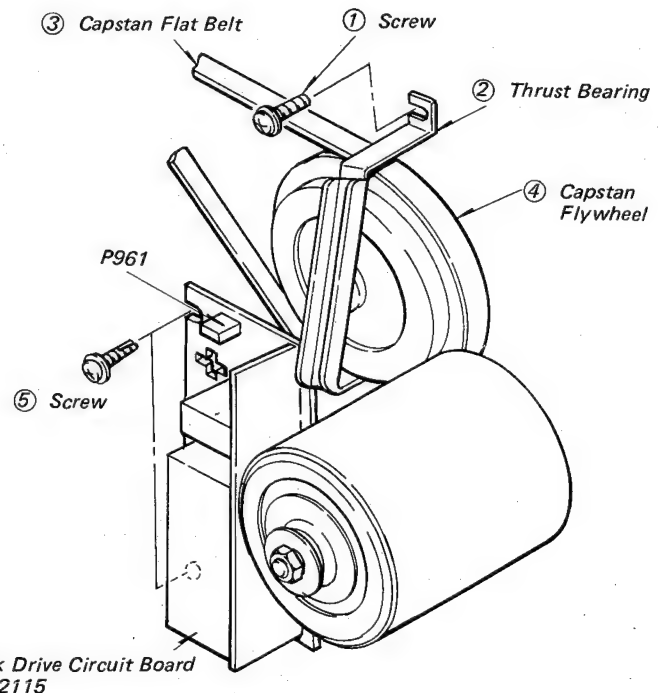

Fig. 5-73 Disk Drive Board PW-2115 and Capstan Flywheel.
6. Remove the two screws ⑤ in Fig. 5-73.
8. Loosen the two screws ① and take out the thrust bearing ② (see Fig. 5-73).
9. Remove the capstan flat belt ③ and take off the capstan flywheel ④ (see Fig. 5-73).